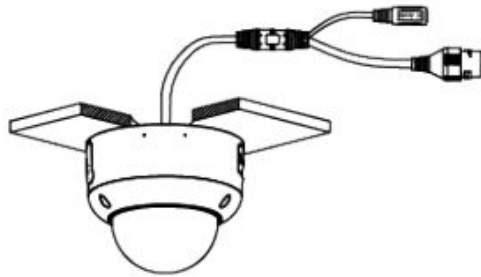

Figure 2-4
Step 6 Confirm that the inner gaskets are lined up accordingly and then install the dome cover back on the dome body. Confirm all screws are secured properly. See Figure 2-4.